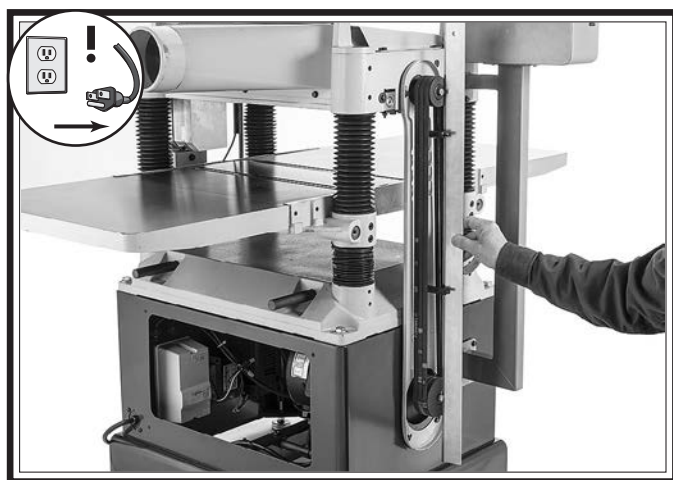

Figure 62. Checking pulley alignment.
2. Remove belt cover, then use straightedge to check pulley alignment, as shown in **Figure 62**.